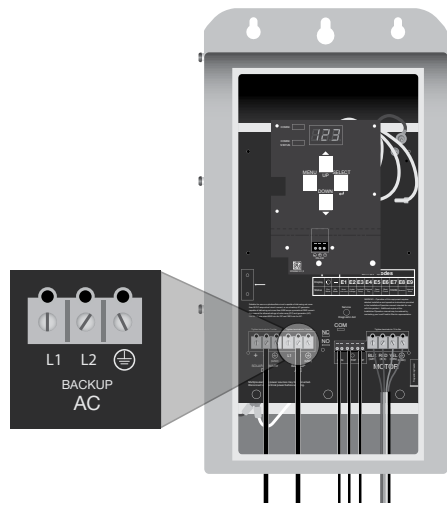

Figure 6: AC Wiring Connection
3. Connect the cables from the generator to the Terminal Block labeled "Back-up AC" and marked L1, L2, and GND. (Figure 6) (Torque specification: 15 in-lbs/ 1.7 N-m).